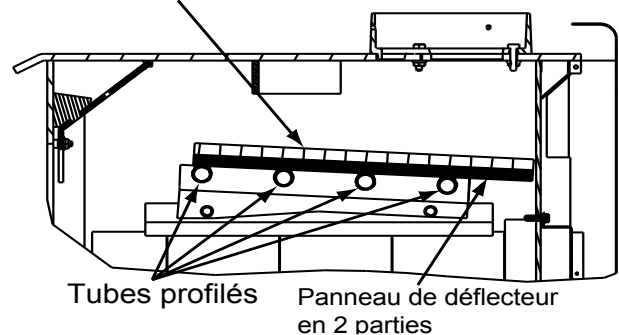

Figure 11.1
1. Confirm the baffle is correctly positioned. It should be even with the front tube and resting on all tubes (Figure 11.1 and 11.2).